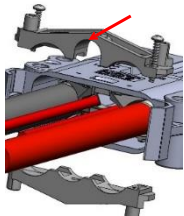

Figure 8
- a. Line up the top and bottom clamp with open pillars at the cable side of the housing (note the upper clamp has a larger "U" and should be on the side with polarity markings). (Figure 8)